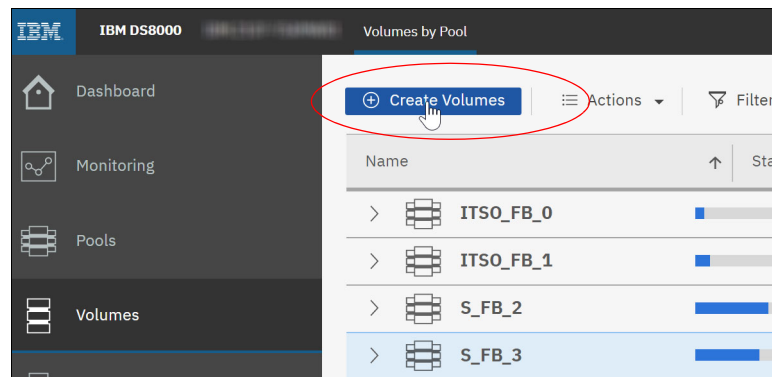

Figure 9-46 Volumes by Pool
2. Selecting one of the first two options opens a view listing all the volumes or pools on the system. Figure 9-46 shows the Volumes by Pool view.